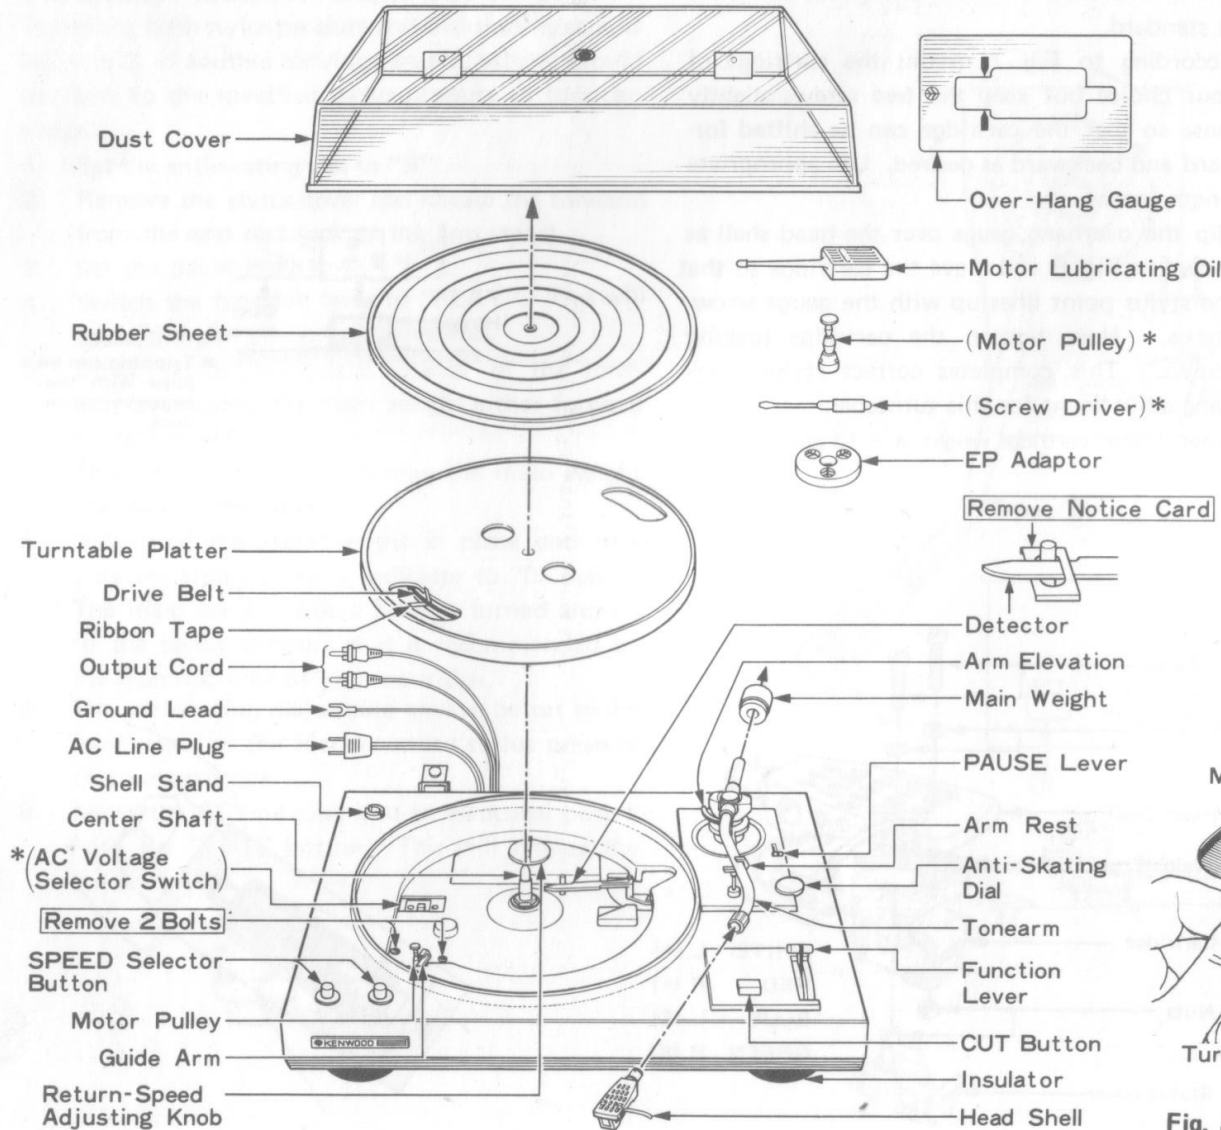

Fig. 3 Location of Parts
1. Refer to Fig. 3 and confirm that all parts are correctly furnished.